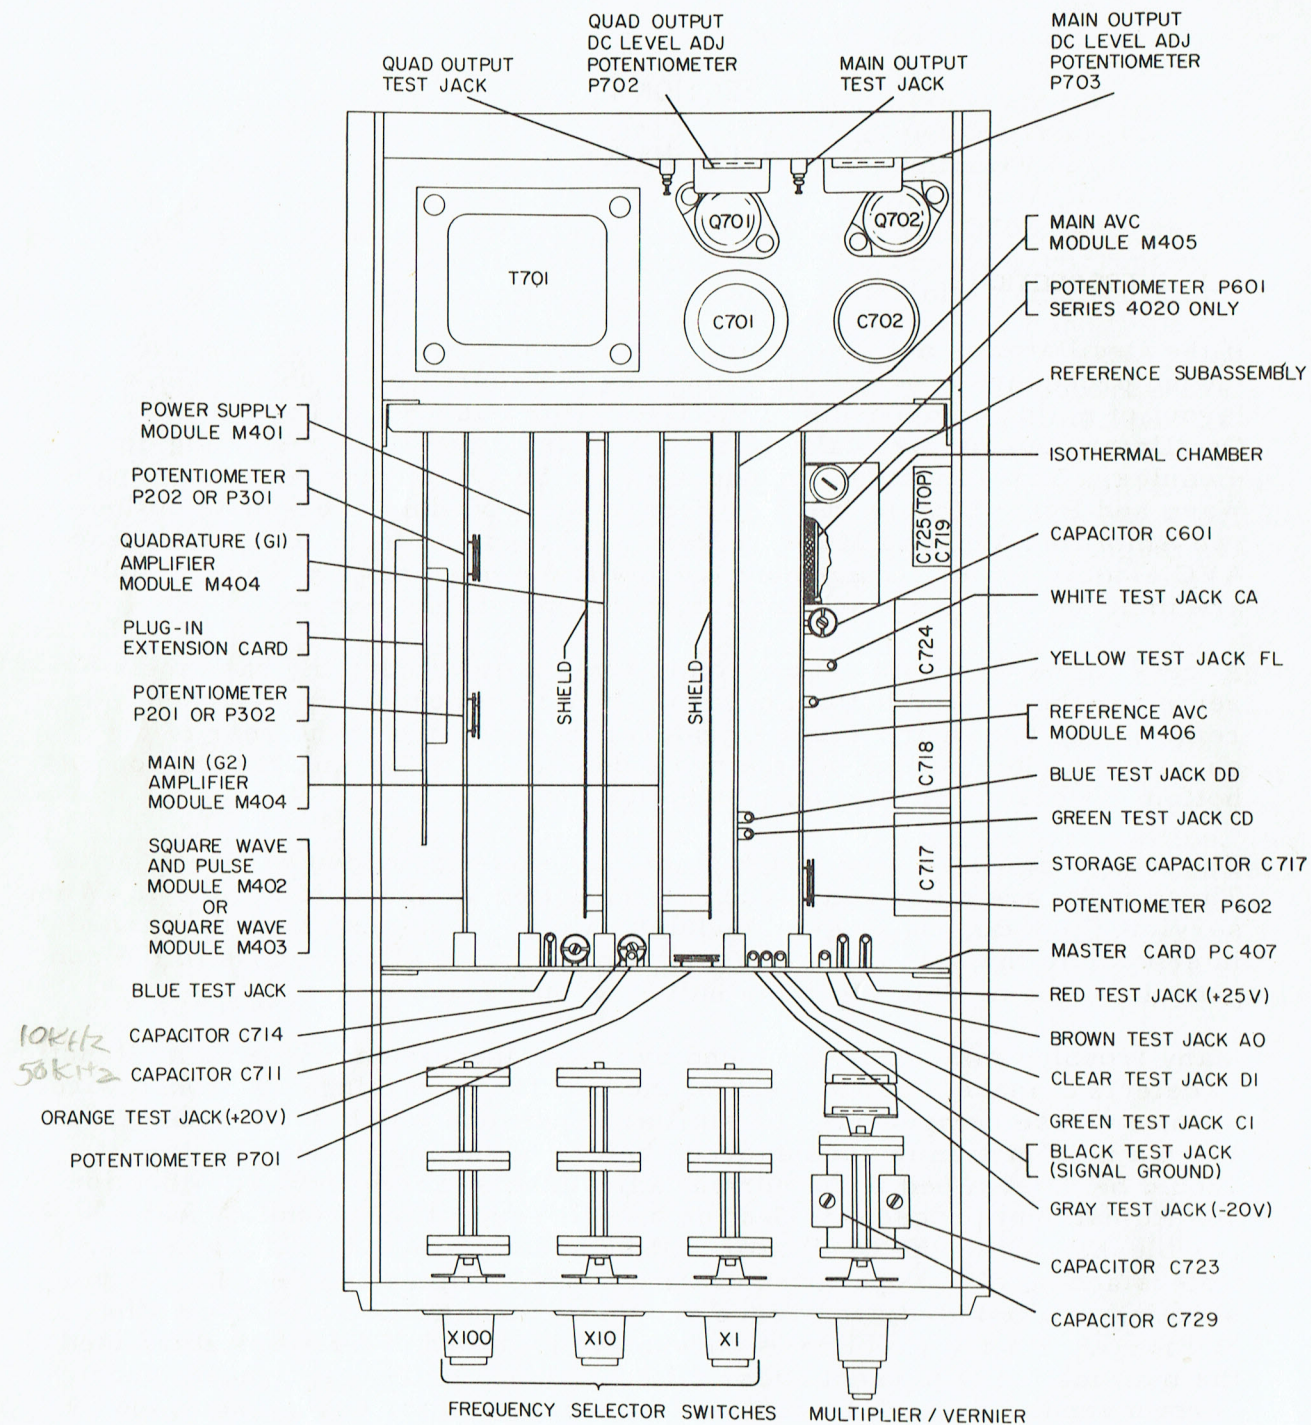

Figure 4. Top View of Main Assembly Chassis
If the Oscillator is not functioning properly and requires service, the following procedure may facilitate locating the source of trouble. The general layout of major components of the Oscillator is shown in Figure 4. The Oscillator consists basically of a main chassis and five or six plug-in modules. These modules include a Power Supply Module M401, a Square Wave and Pulse Module M402 or Square Wave Module M403 (both optional), two Amplifier Modules M404, a Main AVC Module M405, and a Reference AVC Module M406. Component layouts and parts lists for these Modules are included with their schematics at the end of this manual.
The most frequently used check points have been provided with test jacks. These jacks are color coded and are identified as shown in Figure 4. When servicing the various plug-in modules, a plug-in extension card fastened internally to the side of the chassis is provided to allow access to the components of the module while the unit is in operation.
If the voltage at FO does not vary properly as the output is changed, check the voltage across the Storage Capacitor (SC), C730, located as shown in Figure 4. This is a high impedance point and care should be taken not to load it while making measurements. The measuring equipment should have an input impedance of at least 10 megohms. SC should vary from at least plus 4 volts through zero volts to at least minus 4 volts as the main output is varied from 9 to 11 volts rms. If SC varies properly but the FO does not, check Q606 and Q607 and their associated components.
The following procedure is provided for the purposes of facilitating the calibration and adjustments of the Series 4000 Oscillators in the field. The steps outlined follow very closely the operations which are performed on the instrument by our Final Test Department, and strict adherence to this procedure should restore the Oscillator to its original specifications. It should be noted that some of the tolerances given in this procedure are much tighter than our general specifications. This is to ensure, in test, that all general specifications are met with adequate safety factor. These nominal tolerances, therefore, should not be used for purpose of accepting or rejecting the instrument. If any difficulties are encountered, please refer to Maintenance, Section 4. If any questions arise which are not covered by this procedure, please consult our Factory Service Department. The location of all major components, modular sub-assemblies, test jacks, screwdriver controls and adjustments are shown in Figure 4.
With the Oscillator operating at 115 volts line, check the following dc voltages with respect to chassis. The Floating/Chassis grounding switch located on the rear of the chassis should be in the Chassis position. All test jacks are color coded and their locations are shown in Figure 4.